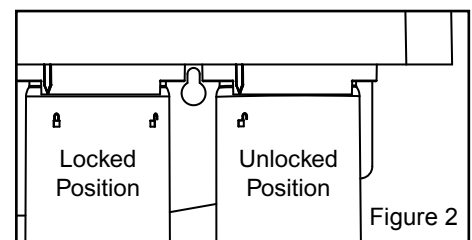

Figure 2
3. Making a clockwise, quarter turn, twist the cartridge into locked position. (Figure 2)
10. Remove sanitizer cartridge, bypass plugs, and tube union. Re-install the filter cartridges and post carbon and turn back on the water supply. (Figures 2 and 3)